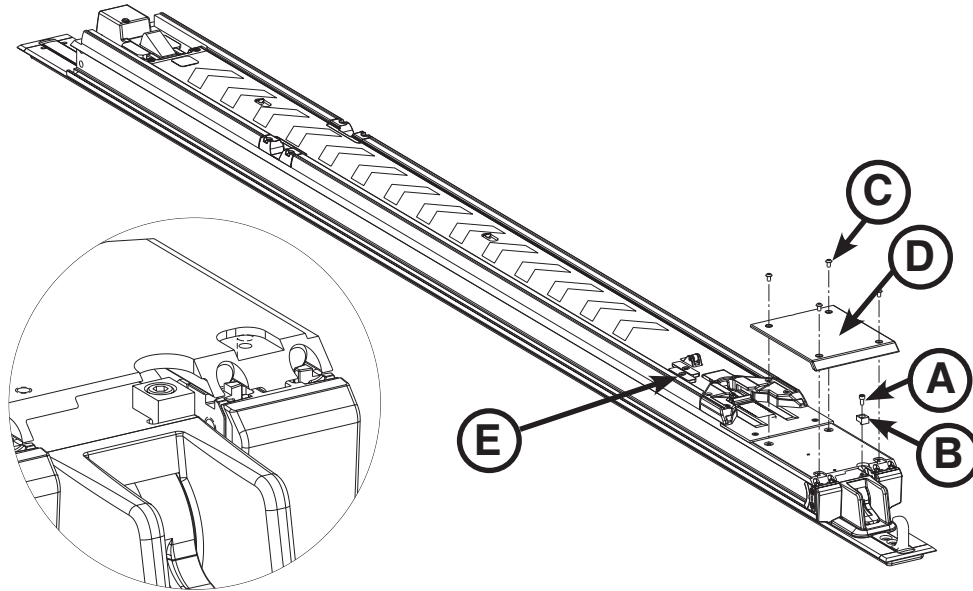

Figure 19: Attach the Foot End Transfer Wear Pad
4. Installer 1 (Foot End) lifts the transfer assembly and slides the transfer lock triggers (E) (Figure 19) toward the foot end of the transfer to disengage the transfer locks. Keep the transfer lock triggers pulled toward the foot end until the transfer is seated on the anchor as shown in Figure 19. Installer 2 (Head End) slides and centers the open end of the transfer assembly over the rollers in the anchor assembly.
**Note:** You may notice slight resistance while rolling over the second set of rollers; push past the resistance to the position shown in Figure 19.
5. Using a 5/32" hex wrench, install the supplied socket head cap screw (0004-658-000) (A) to secure the supplied trolley magnet activator (6390-0001-106) (B) as shown in Figure 19.
6. Using a T25 Torx driver, install four supplied button head cap screws (0004-665-000) (C) to attach the supplied foot end transfer wear pad (6390-001-225) (D) to the transfer assembly as shown in Figure 19.
7. Slide the transfer lock triggers (closest to the foot end) (E) as shown in Figure 19 toward the foot end of the transfer assembly to unlock.